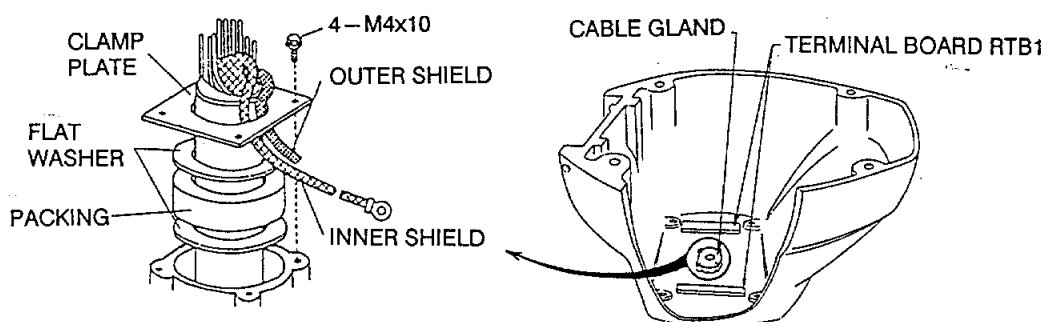

Figure 6-3 Passing the Multicore Cable Through the Scanner Housing
5. Secure the cable gland to the scanner base for complete watertightness. Ground the outer shield of the multicore cable with the clamp plate as shown in Figure 6-3.